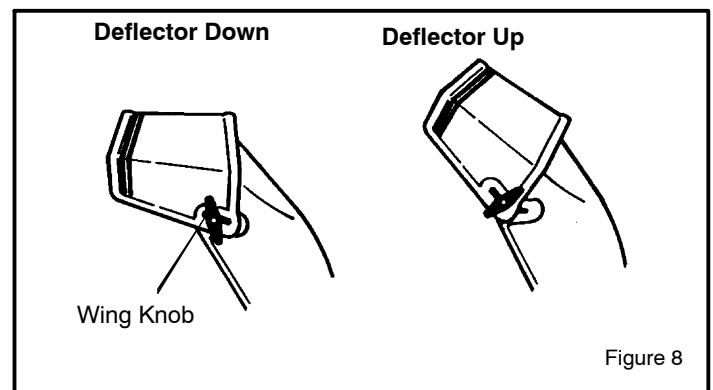

Figure 8
2. Loosen the **wing knob** on the chute deflector and move the deflector to set the distance. Move the deflector (**Up**) for more distance, (**Down**) for less distance. Then tighten the **wing knob** (See Figure 8).